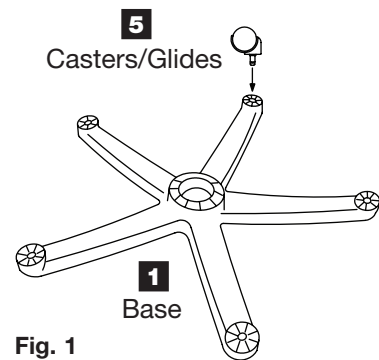
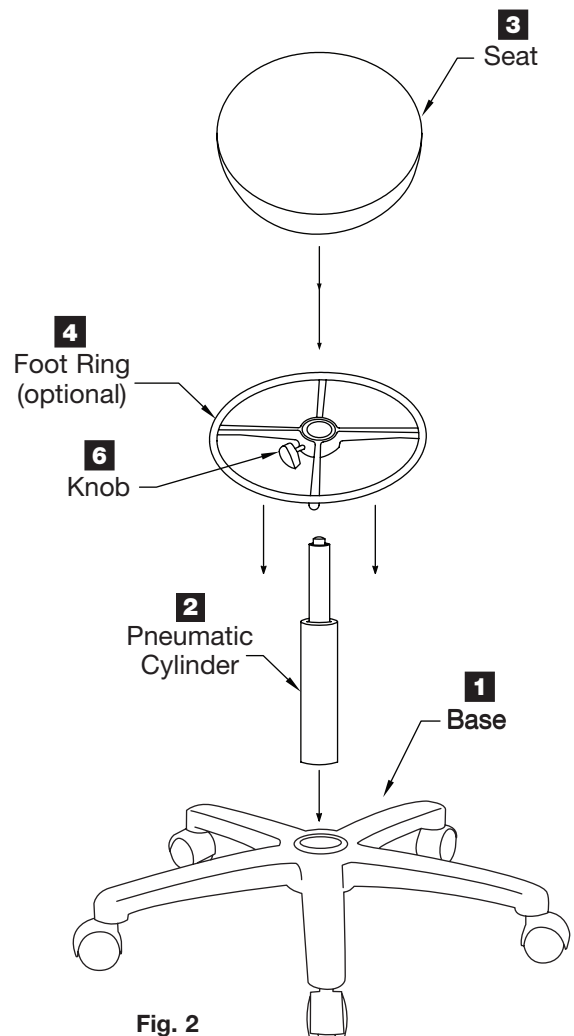

Fig. 1
Fig. 2
2. Place base (1) upside down and insert casters/glides (5) (see figure 1).
3. Slide optional foot ring (4) over pneumatic cylinder from bottom (2) about halfway up the cylinder and tighten knob (6).
4. Flip the base so casters/glides are on the floor and insert pneumatic cylinder (2) as shown in (figure 2) into center hole of base with colored button up. Lightly push down. Adjust foot ring to desired height
5. Align the center hole of the underside of the seat assembly (3) with the top of the pneumatic cylinder (2) and lightly push down. With the weight of your body carefully sit on the seat. This will press the base, pneumatic cylinder, and seat together.